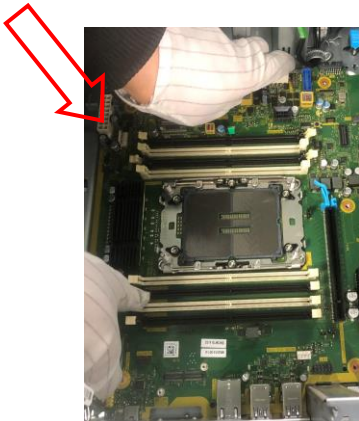

Figure26 Press the guide and remove the front upper chassis fan and fan guard
- Figure26 Press the guide and remove the front upper chassis fan and fan guard